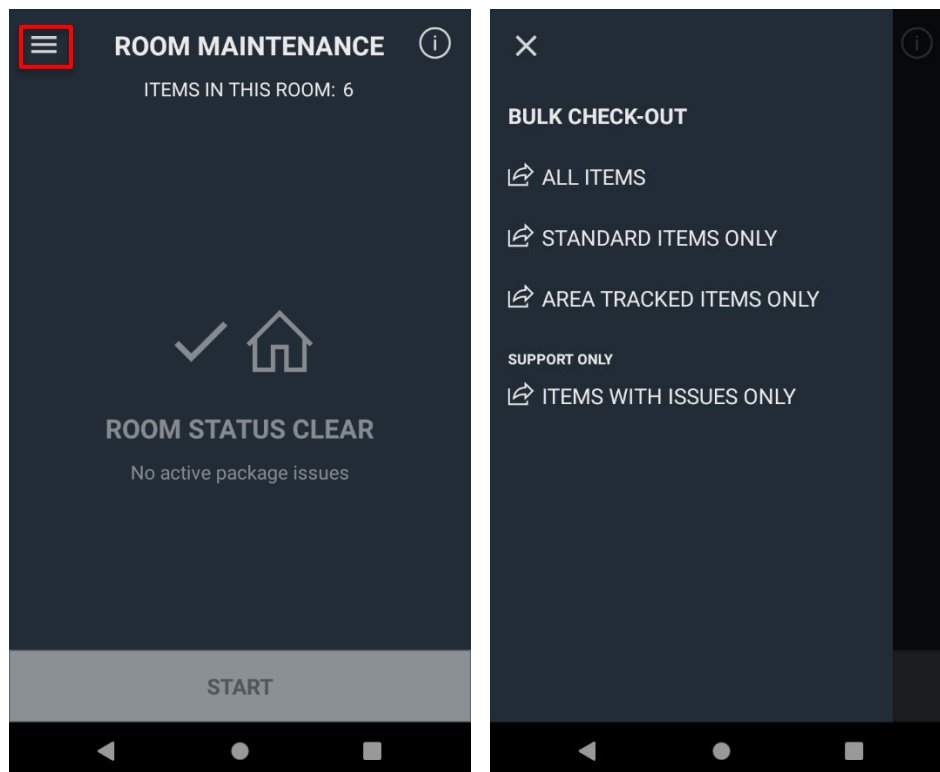

Figure 62: Bulk Check Out menu and options
4. Tap the **Three Lines** button in the top-left. The Bulk Check-Out options appear. See Figure 62.